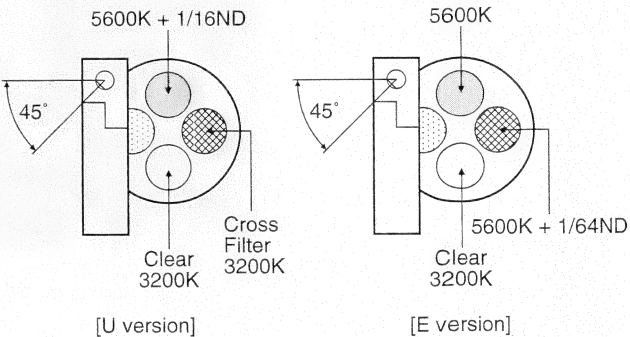

Fig. 1-4-4 Position Relationship Between Filters and Filter Shaft
- Usually, the optical filter assembly does not need to be removed. However, when it is removed then attached, observe the position relationship between the filters and filter shaft as shown in Fig. 1-4-4.